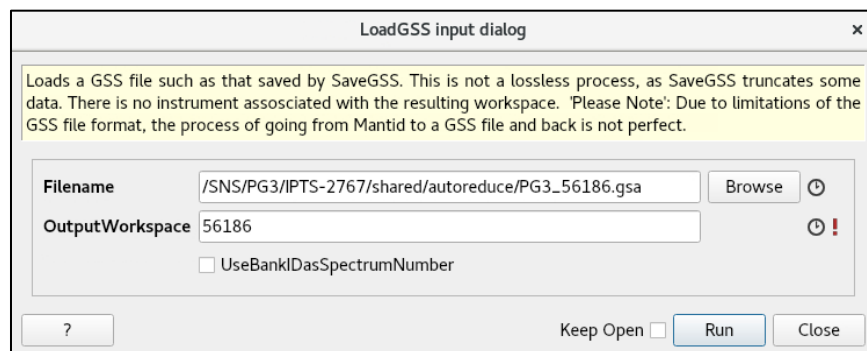

Figure 18. LoadGSS input dialog box.
- 5.1. Execute the LoadGSS algorithm in Mantidworkbench by typing the algorithm name in the algorithm box and hitting the Execute button. In the LoadGSS input dialog box (Figure 18), use the Browse button to navigate to the autoreduce folder for your proposal and select the desired *.gsa file. The checkbox should be left unchecked. Give the dataset an appropriate name in the OutputWorkspace box and hit the Run button.